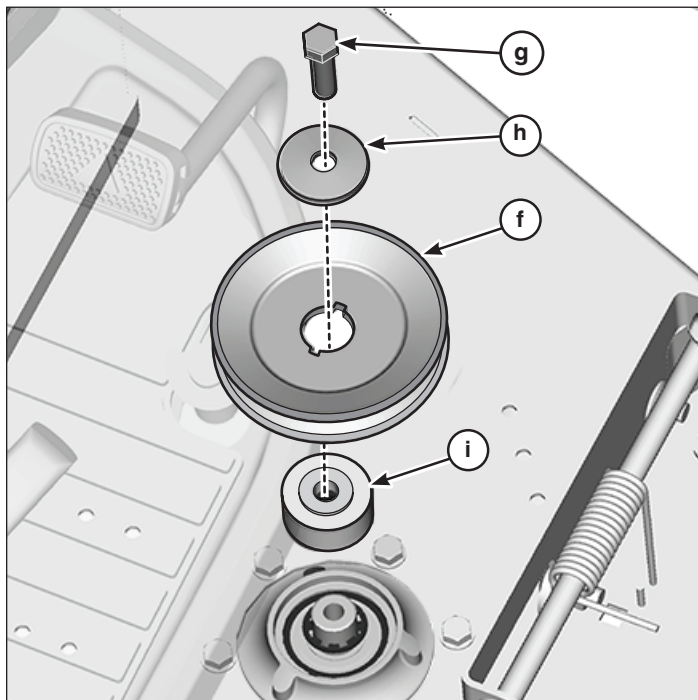

Figure 4
- Remove bolt (g, Figure 4), Belleville washer (h), existing pulley (f) and spacer (i). Retain Belleville washer and existing pulley.